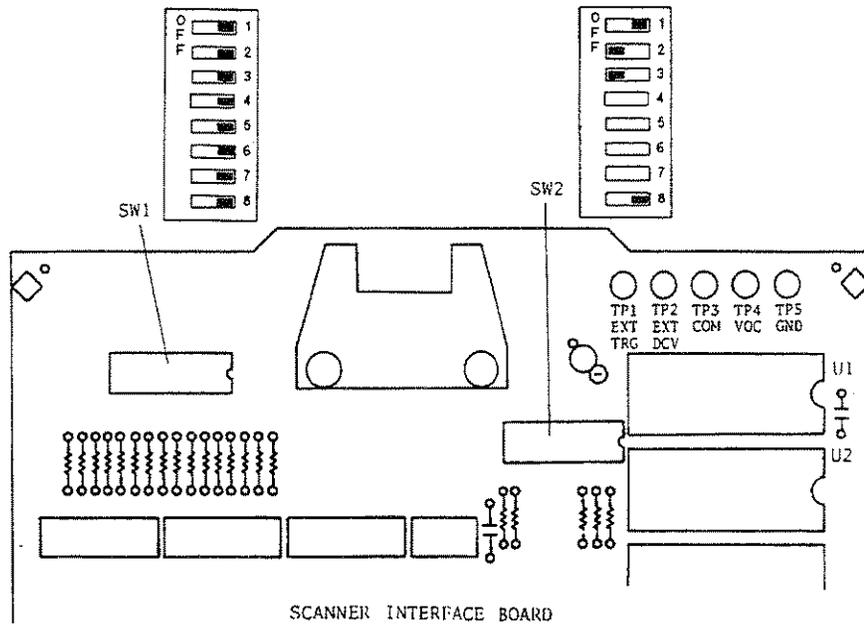

Figure 10-20. SW1 and SW2 settings
6. Set DC power supply output voltage +5 V. Connect TP2(GND) on the bias interface simulator to '-' terminal of the power supply. Then connect TP1 (Vcc) on the simulator to '+' terminal of the power supply. (refer to Figure 10-20)
7. Connect the scanner simulator to the scanner interface connector on the HP 4284A's rear panel as shown in Figure 10-20.